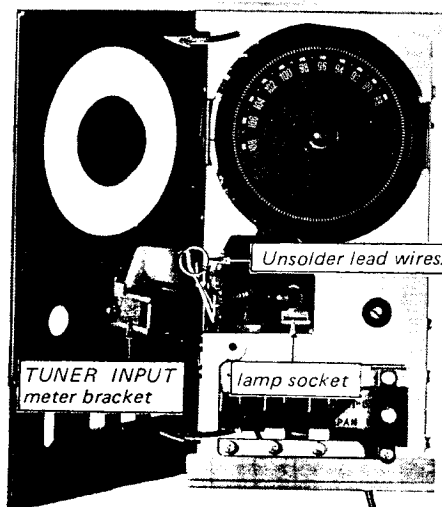

Fig. 2-3. Front panel removal (2)
4. Remove the front panel in the arrow direction shown in Fig. 2-3.
5. Unsolder the two lead wires from the TUNER INPUT meter and pull out the lamp socket from the TUNER INPUT meter bracket as shown in Fig. 2-3.